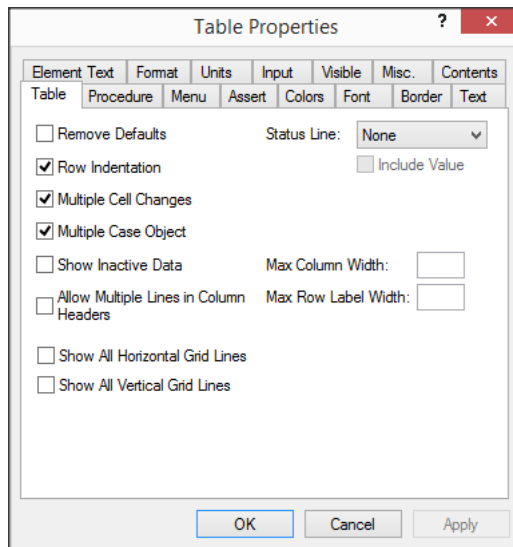

Figure 14.9: Creating a multiple case table
- ▶ check the 'Multiple Case Object' checkbox (see Figure 14.9), and